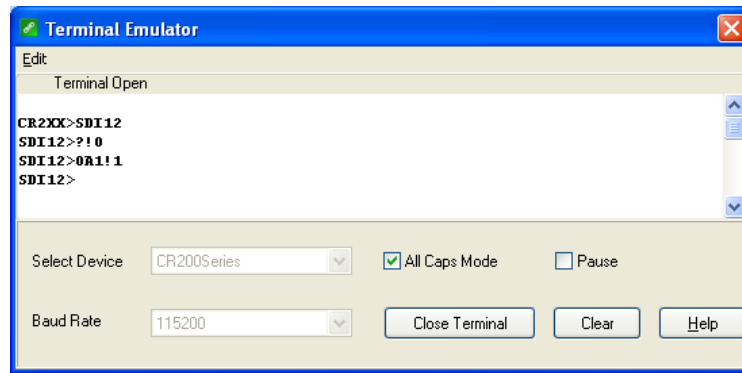

FIGURE D-1. CR200(X) example of using the SDI-12 transparent mode to change the SDI-12 address from 0 to 1.
D.2.1 CR200(X) Series Datalogger Example
6. To change the SDI-12 address, key in **aAb! <enter>**, where *a* is the current address from the above step and *b* is the new address (see FIGURE D-1). The C470/CS471 will change its address and the datalogger will respond with the new address. To exit SDI-12 transparent mode, select the **Close Terminal** button.